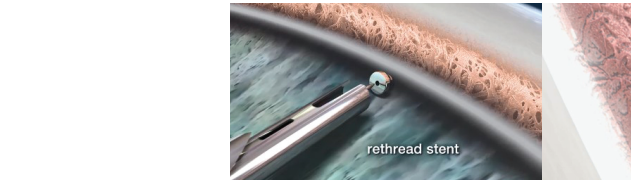

Figure 9. iStent infinite rethreading of stent (left) and flush technique (right)
- If a stent is under implanted and remains on the trocar, do not actuate the singulator; re-attempt stent implantation in the nearest available trabecular meshwork tissue (within 1/2 clock hour away); see Figure 9
- If a stent is under implanted and remains on the trocar and the singulator was then actuated (i.e., two stents visible on the trocar), use an alternative "flush technique" procedure to re-attempt stent implantation in the nearest available trabecular meshwork tissue (within 1/2 clock hour away); see Figure 9.
- If a stent is under implanted and **does not** remain on trocar, the stent can be "rethreaded" by placing the trocar through the central inlet (Figure 9). Use the appropriate tissue pressure technique, "dimple technique" if one stent is on the trocar or the "flush technique" if two stents are visible on the trocar.